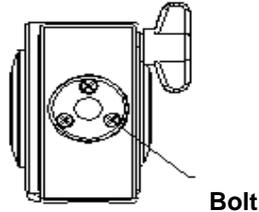

Figure 18
(1) Mark a reference point on the wall, and its horizontal accuracy should not be less than 5".
(2) Power on the instrument, and observe the distance from the laser spot to the reference point. If the vertical distance error from the laser spot to the reference point is out of $\pm 3\text{mm}$ range, or the horizontal distance error from the laser spot to the reference point is out of $\pm 20\text{mm}$ range, it means that it is necessary to recalibrate the accuracy of the laser spot.
(3) While calibrating, unclench the laser cover (3-3#), and adjust the 3pcs crosshead plate bolts M2.5 \times 8(3-6#) until it comply with the accuracy requirement, as shows in figure 18.